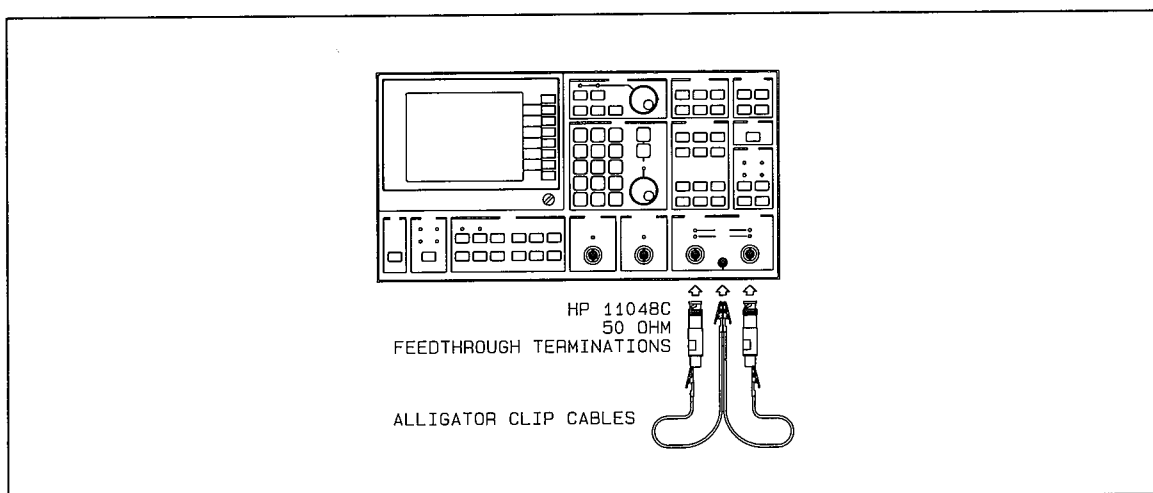

Figure 2-2 (OV) DC Offset Test Setup
- A. Connect the test instruments as shown in figure 2-2. Keep the leads to chassis ground as short as possible.